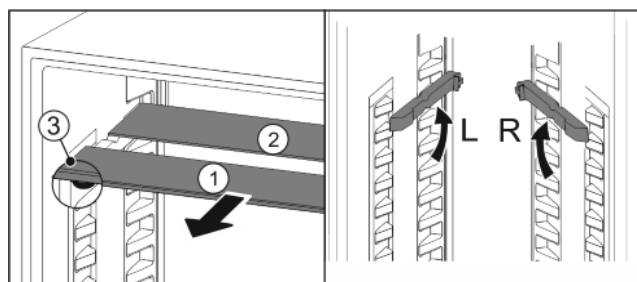

Fig. 20
- ▶ Pull the glass panels out Fig. 20 (1) from the front, one at a time.
- ▷ Glass panel Fig. 20 (1) with pull-out stoppers is at the front.
- ▷ Stoppers are pointing down Fig. 20 (3).